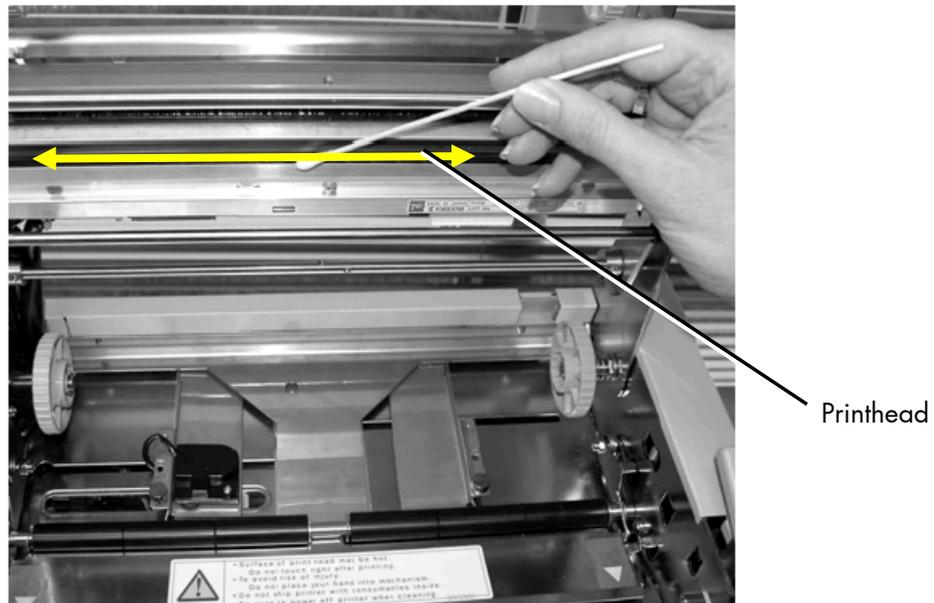

Fig. 8.1.2.a Cleaning the printhead
- Move the cloth or swab along the print area of the printhead (see figure 8.1.2.a). This working step requires light pressure and has to be repeated several times.
- Use a soft lint-free cloth, moisten it with spirit and then use it to wipe several times along the print area of the printhead (compare figure 8.1.2.a).